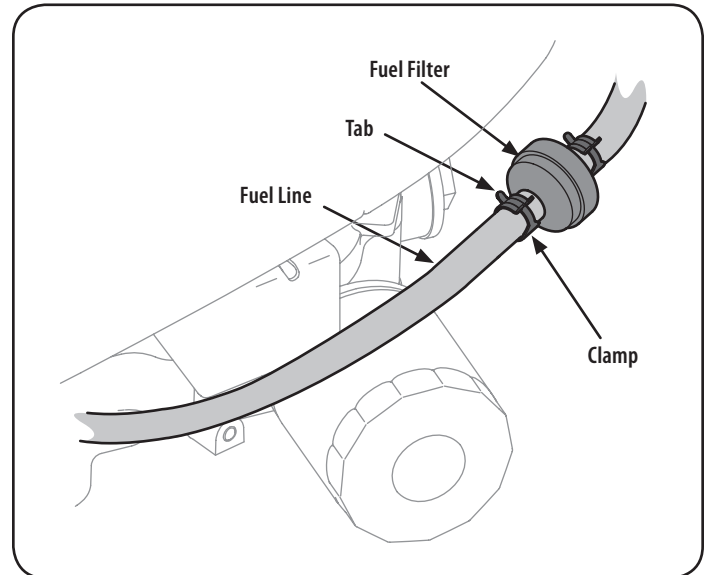

Figure 37
1. Use pliers to squeeze the tabs on the other clamp (the out-line side of the fuel filter), and slide the clamp away from the fuel filter. Twist and pull the fuel line off of the fuel filter. See Figure 37.